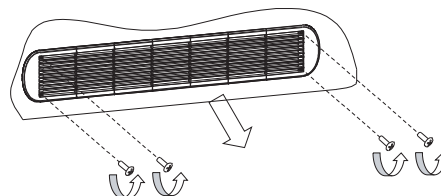

Fig. 5-10
- 2) Loosen the hanger of the putdown side refers to Fig.5-10